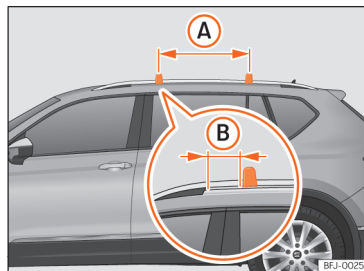

Fig. 134 Attachment points for the roof railings for the roof carrier system.
»» Fig. 134 (A) should be between 75 and 90 cm and the distance between the crossbars and the brackets of the roof railings (B) must be 15 cm.